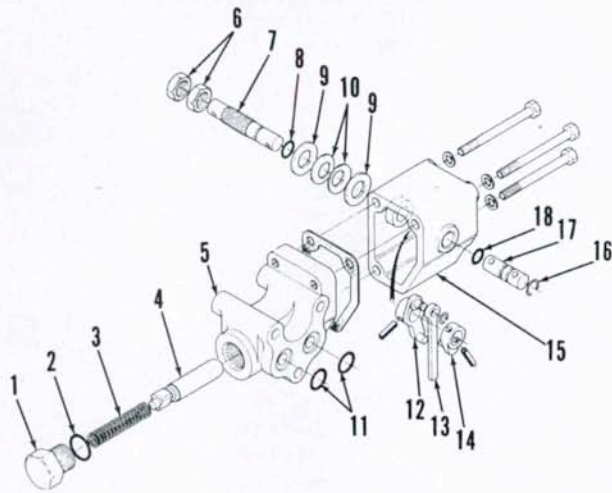

Fig. 171—Exploded view of draft control valve used on models so equipped.
To disassemble valve, remove plug (1 - Fig. 171) and spring (3). Remove through-bolts and separate case (15) from valve body (5). Withdraw valve spool (4) from body. Drive out spring pins and remove shafts (7 and 17), arms